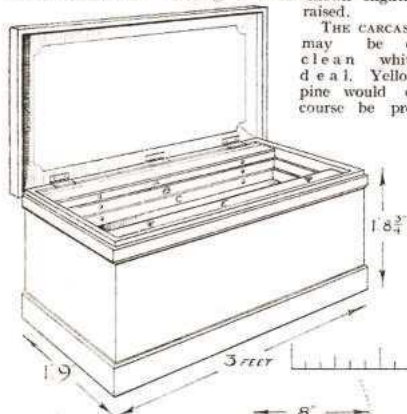
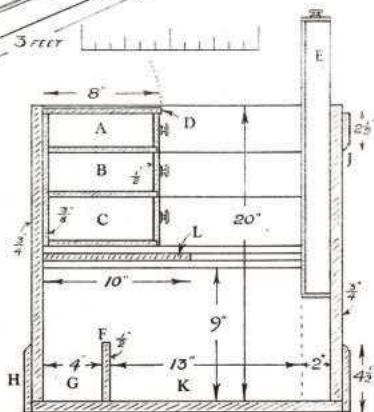

FIG. 1. TOOL CHEST. Size (approximately) 36 ins. by 21 ins. by 22 ins. high.
FIG. 2. CROSS SECTIONAL VIEW WITH DETAIL SIZES
From Fig. 1 (and more particularly from the sectional elevation, Fig. 2) it will be seen that there are three drawers, or tills (A, B, C), which slide forwards and backwards on runners. The top drawer has a hinged lid (D). The saw till (E) slides up and down inside the front of chest. At Fig. 2 it is shown slightly raised.
For the front and back two pieces (approximately 3 ft. by 1 ft. 8 ins., and $\frac{3}{4}$ in. thick) will be jointed up to obtain the width. For the ends two pieces about 1 ft. 9 ins. by 1 ft. 8 ins. (also $\frac{3}{4}$ in. thick) are required. These four sides, after squaring up, are dovetailed together, the dovetail pins being about $2\frac{1}{2}$ ins. apart. Before glueing, trench both ends to take a length of stuff 4 ins. by $\frac{1}{2}$ in. (F, Fig. 2). This forms compartment G (Fig. 2) for moulding and heading planes.
ment G (Fig. 2) for moulding planes. Alongside this is a larger compartment (K) for bench planes. For covering these compartments a sliding